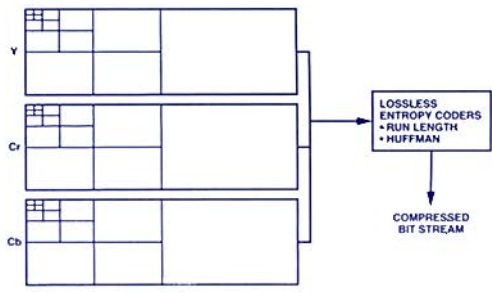

Figure 6. Lossless compression option.
Figure 6 shows the scheme for using the ADV601 in lossless mode. In this case the 42 transformed blocks are sent to 2 types of lossless entropy coders. The entropy coders benefit from the increased correlation found within the transformed blocks. In this mode of operation, the compression performance is tied to the degree of complexity in the original. If the original image is of a simple ramp, all the blocks will contain zeros, except for the smallest block in the upper left hand corner (N). This would yield lossless compression in excess of 300:1 (requiring less than 0.5 M bits/s